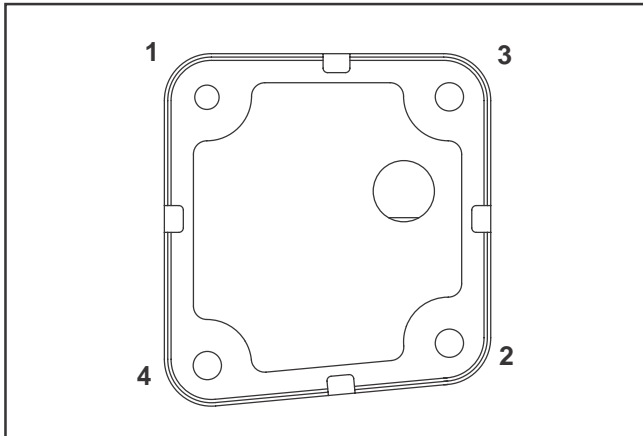

Figure 10-40. Breather Assembly Fastener Torque Sequence.
3. Install the M5 hex flange nuts onto the studs, then torque using the sequence shown in Figure 10-40 to **5.7 N·m (51 in. lb.)**.